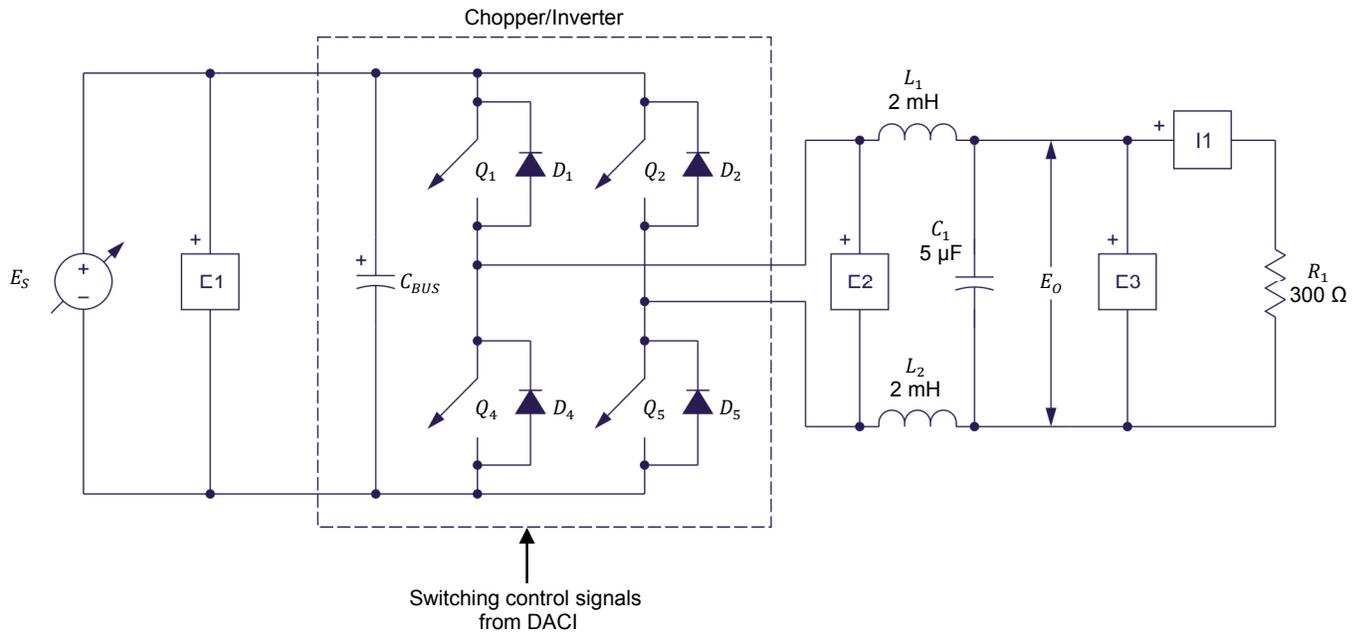

Figure 21. Four-quadrant chopper circuit.
6. Set up the circuit shown in Figure 21. Use the two 2 mH inductors and the 5  $\mu$ F capacitor of the *Filtering Inductors/Capacitors* module to implement  $L_1$ ,  $L_2$ , and  $C_1$ . Make the necessary connections and switch settings on the *Resistive Load* in order to obtain the resistance value required.